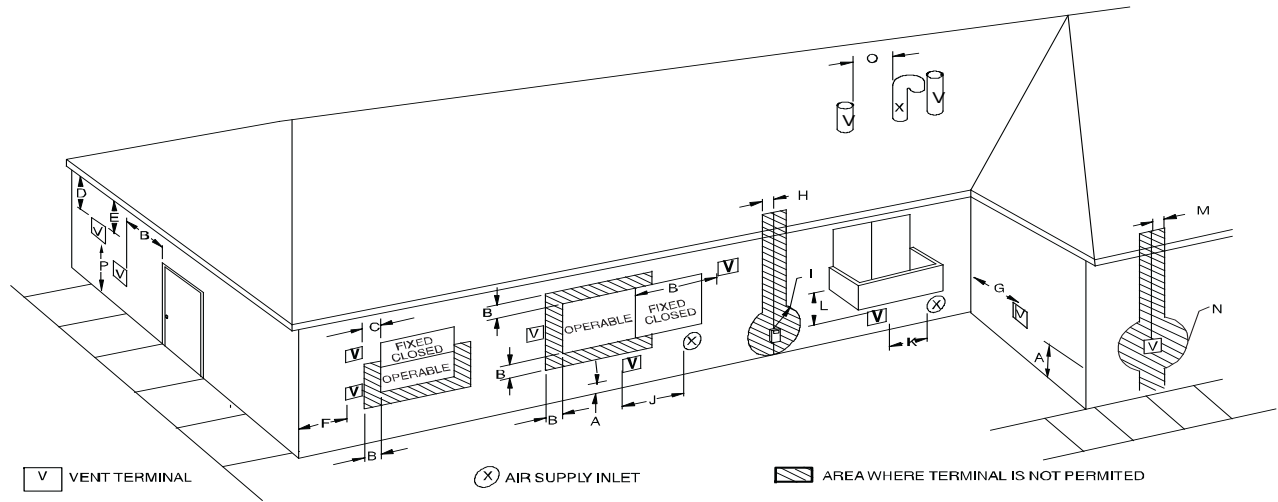
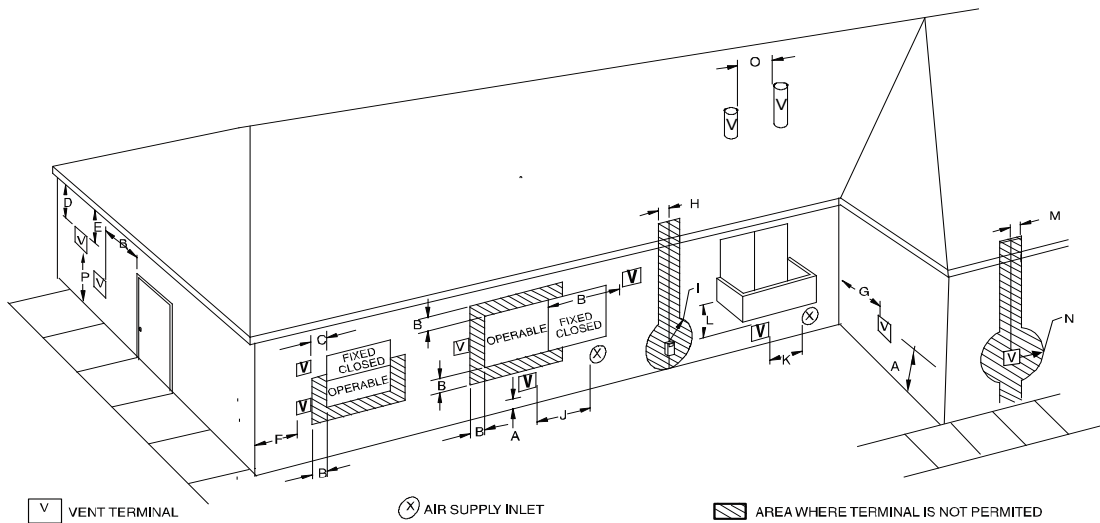
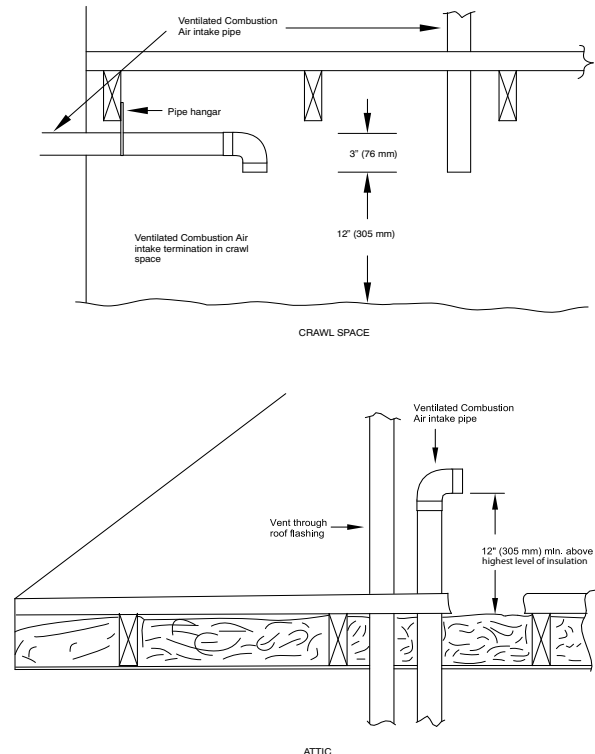

Fig. 43 – Direct Vent Termination Clearance
Fig. 44 – Ventilated Combustion Air and Non-Direct Vent Termination Clearance
Fig. 48 – Vent Terminations for Ventilating Combustion Air
In a direct-vent (2-pipe) system, all air for combustion is taken directly from outdoor atmosphere, and all flue products are discharged to outdoor atmosphere. Combustion-air and vent pipes must terminate together in the same atmospheric pressure zone, either through the roof (preferred) or a sidewall. See Fig. 43 for references to clearances required by National Code authorities.
In a ventilated combustion air option, the vent terminates and discharges the flue products directly to the outdoors similar to a direct vent system. See Fig. 44 for references to clearances required by National code authorities.
outdoor atmosphere. Air for combustion must be supplied as described in the Air For Combustion and Ventilation Section. Do not use an abandoned chimney to supply outside air to the furnace. See Fig. 44 for references to vent clearances required by National code authorities. A combustion air pipe to the outdoors is not required for a single-pipe vent system. A 12-in. (304 mm) long pipe with a 2-in. (51 mm) tight
For vent termination clearance, references to National codes are shown in Fig. 43 for Direct Vent/2-Pipe system and Fig. 44 for Ventilated Combustion Air/Non-direct Vent/1-Pipe system. For exterior termination arrangements, refer to Fig. 40 for Direct Vent/2-Pipe system and Fig. 41 for Ventilated Combustion Air/Non-Direct/1-Pipe system. Contact Local code authorities for other requirements to and/or exemptions from the National codes shown in the figures.
1. Comply with all clearance requirements stated in Fig. 43 or Fig. 44 per application.
Direct vent (2-pipe) vent and combustion air pipes must terminate outside the structure. See Fig. 43 For references to vent clearances required by National code authorities. Allowable vent and combustion air terminations are shown in Fig. 40.
The vent pipe for a Ventilated Combustion Air System must terminate outdoors. See Fig. 44 for references to vent clearances required by National code authorities. Allowable vent terminations are shown in Fig. 41. The combustion air pipe terminates in a well-ventilated attic or crawl space. Follow the clearances as shown in Fig. 48.
The vent pipe for a Non Direct Vent (1-pipe) system must terminate outdoors. See Fig. 44 for references to vent clearances required by National Code authorities. Allowable vent terminations are shown in Fig. 41.